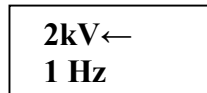

Figure 2
7.1. Turn on the generator by the switcher, located on the generator handle (when turning on the generator and the battery charge is under the lower allowable limit, "**Low battery**" sign appears on the display, LCD shows blinking red thrice and the generator shuts down. In this case the battery shall be charged). After the screen saver, a menu appears on the LCD display of the generator as shown on Figure 2, and the illumination is turned on.